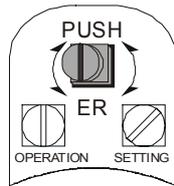

Fig. 9.4.1
- Disengaged PUSHER SHAFT: With a suitable screwdriver press the 'PUSHER' selector 3 mm and turn it 45°, ensure that it does not return to its original height (See figure 9.4.1)
- Note: Pusher shaft allow to engage/disengage the switching and signalling unit from Electric actuator gears. (Figures 9.4.1 and 9.4.2)